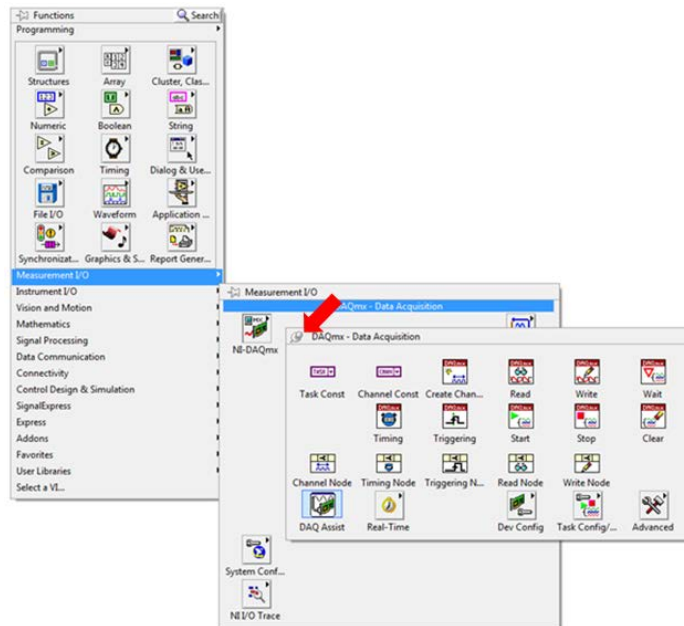

Figure 24. The DAQmx palette includes all the required VIs for communicating with your NI CompactDAQ chassis.
9. Click on the pin to keep this palette visible (red arrow in Figure 24).